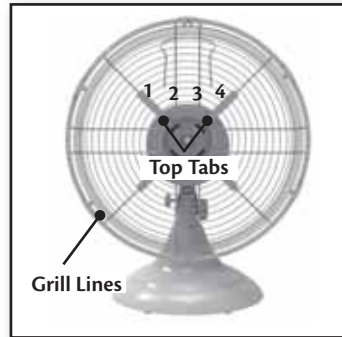

Figure 7
2. Make sure the rear grill is positioned so that four of the grill lines are completely between the top tabs, Figure 7. Then place the rear grill against the motor housing, and line up the four tabs on the back of the grill to the four screw holes on the front of the motor.